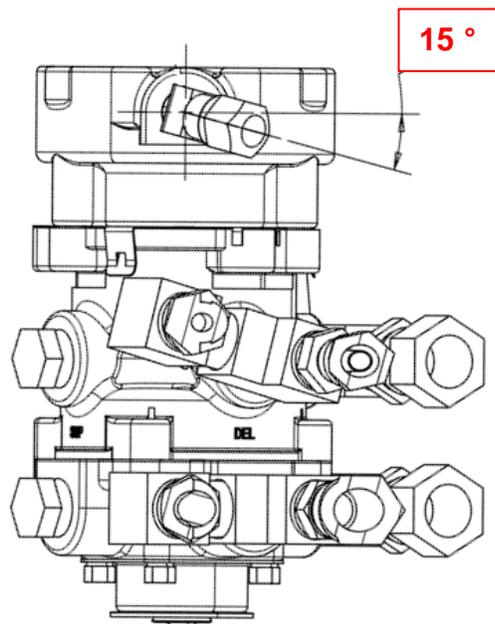

Figure 9: Align the 45 Degree Elbow
23. Install the 45 degree elbow previously removed in step 21 at the BVA port, see Figure 9.
24. Align the elbow as shown in Figure 9 (15 ° relative to BVA mounting surface).